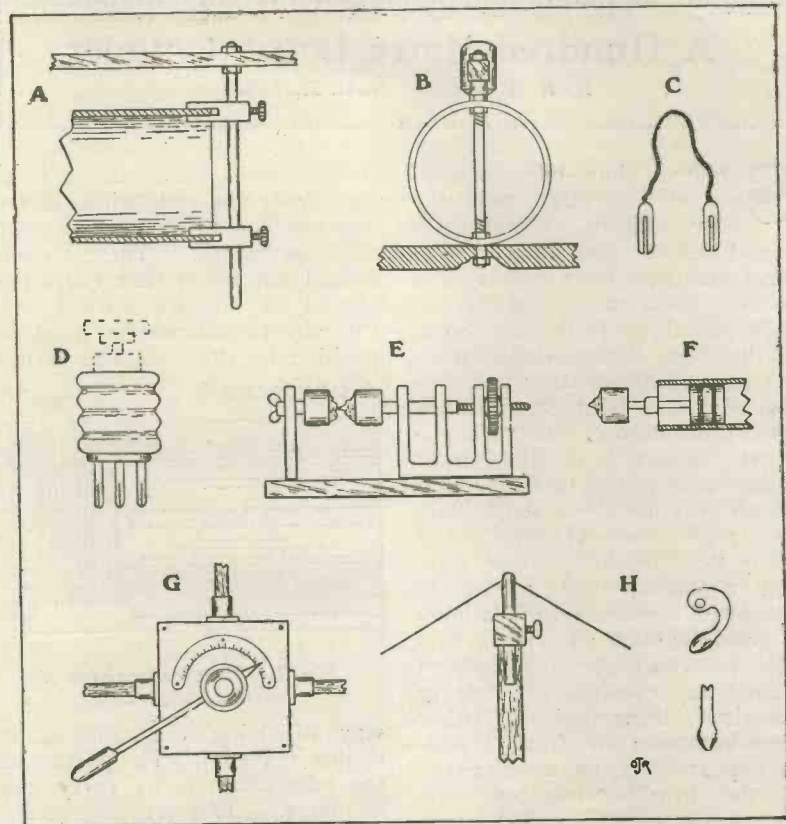

Fig. 3.—Inductance coil mounts and other badly-needed fittings.
A further selection of ideas is given in Fig. 3, where diagrams A and B suggest a simple method of mounting cylindrical inductance coils, either (A) under the panel, or (B) on the usual base-board. Such a fitting would meet with the immediate approval of all users of cylindrical coils. It must be simple, inexpensive, and of attractive design.